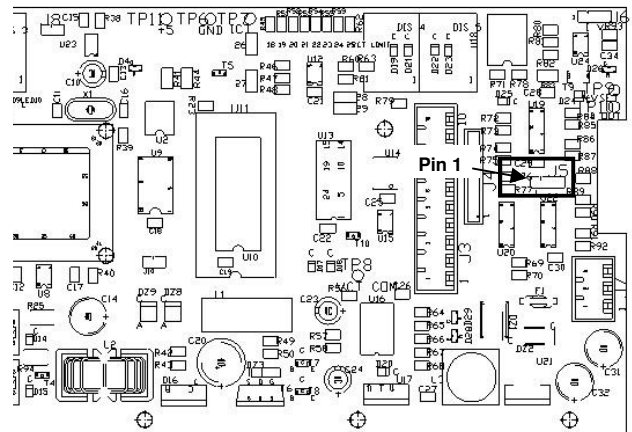

Figure 9: PC Mainboard Jumper J5 Location
4. Verify that J5, shown in Figure 9, has the shunt covering pins 1 and 2.